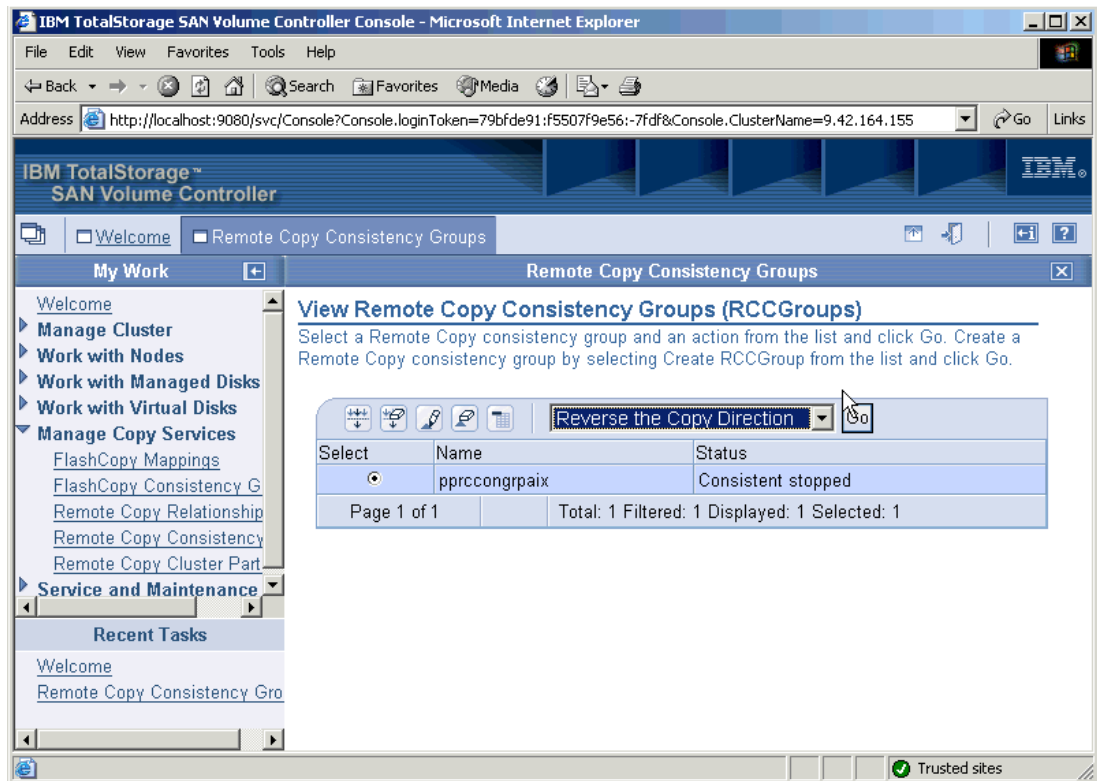

Figure 11-40 Switching the PPRC relationship direction
2. On the View Remote Copy Consistency Groups panel (Figure 11-40), select **Reverse the Copy Direction** from the menu and click **Go**.